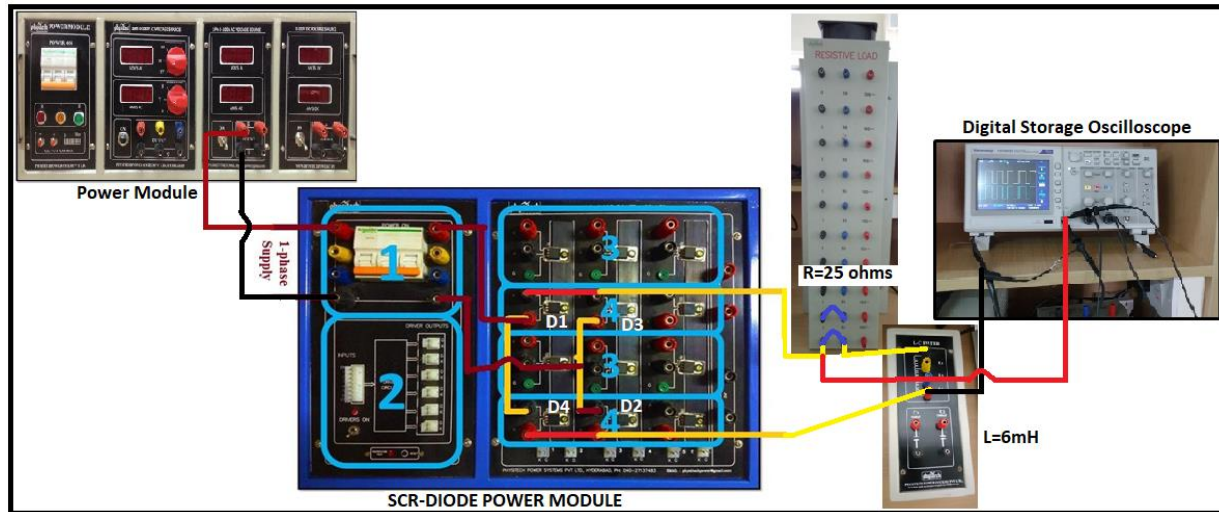

Fig. 4 Hardware implementation of 1-phase diode bridge rectifier with RL Load
1. Connect the circuit as shown in Fig.4 ($R=25\text{ohms}$, $L=6\text{mH}$)